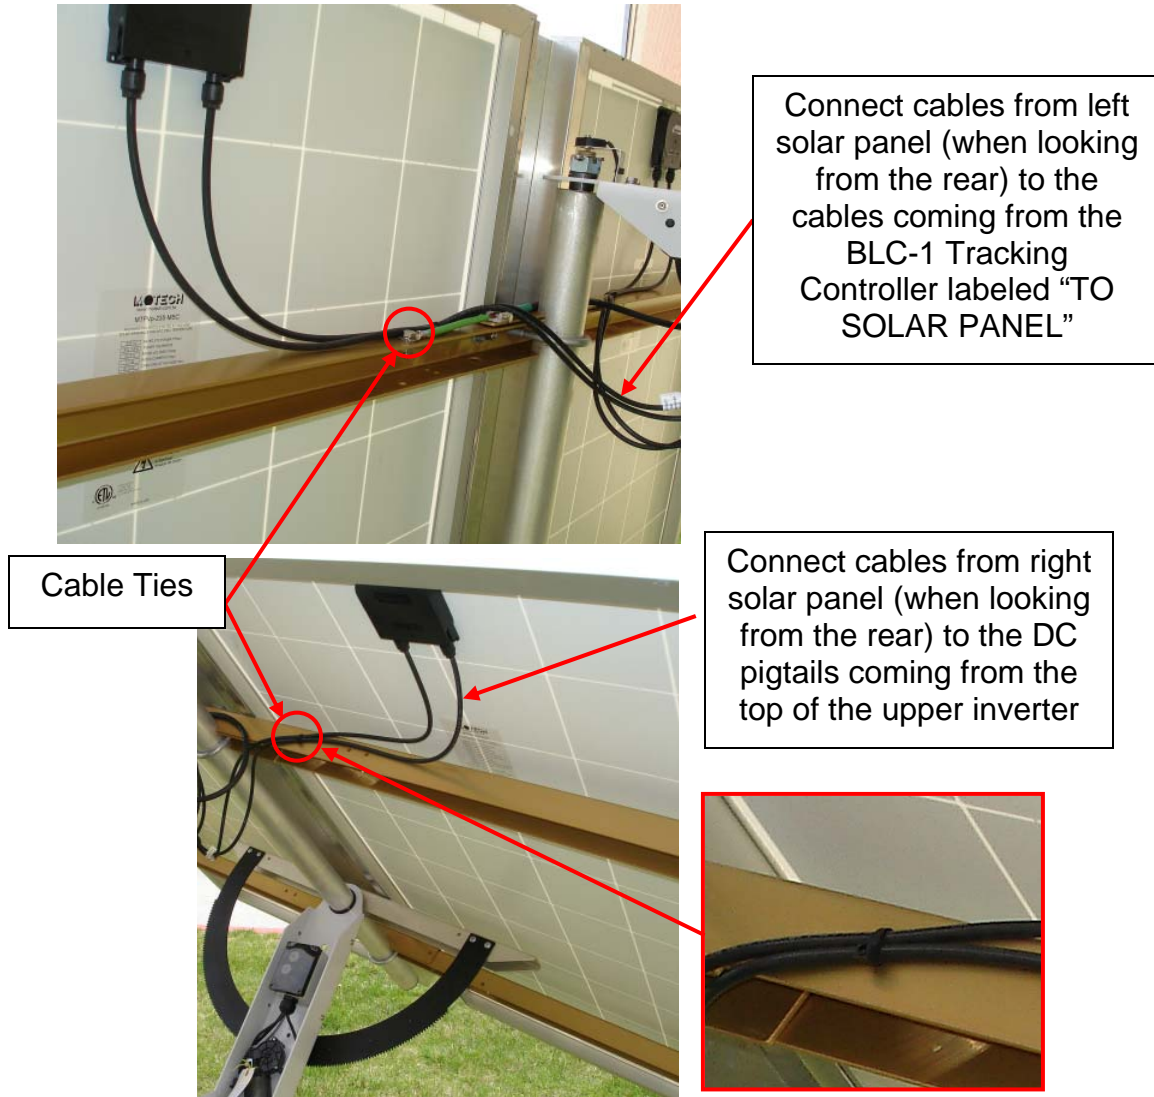

Figure 16
2. Route the Solar Panel cables as shown and secure with cable ties as shown in Figure 16.